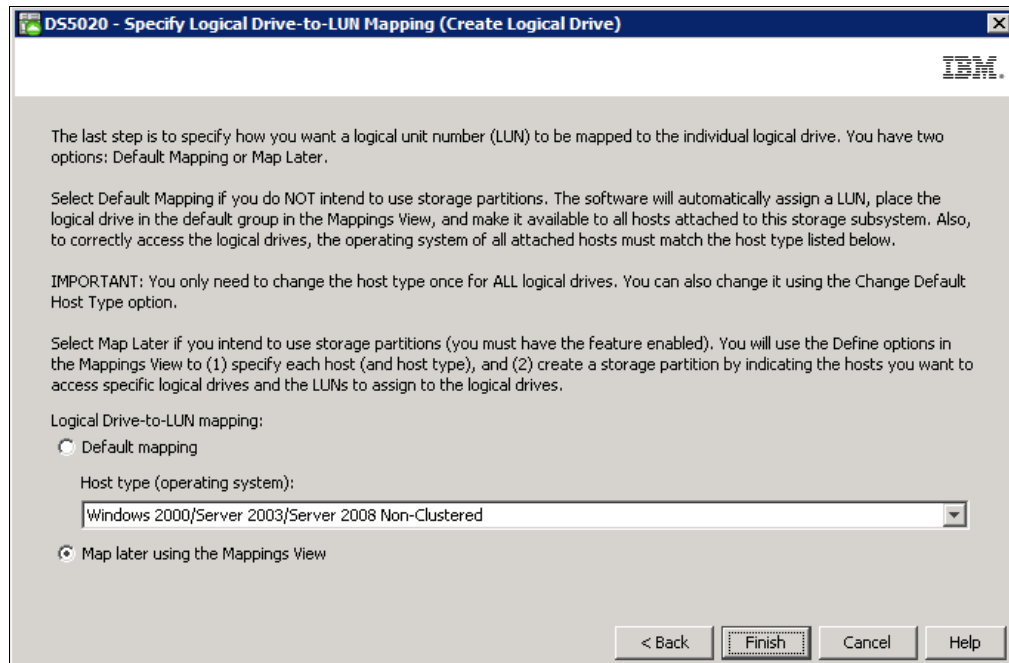

Figure 3-61 Logical drive mapping
8. The Specify Logical Drive-to-LUN Mapping window opens (Figure 3-61). This window allows you to choose between mapping your created logical drive to the default group or to “Map later using the Mappings View.” If you choose the Default mapping, then the physical volume is mapped to the default host group and is available to any host zoned to the DS5000 storage subsystem, so it is not the recommended choice if your DS5000 storage subsystem supports more than a single partition.